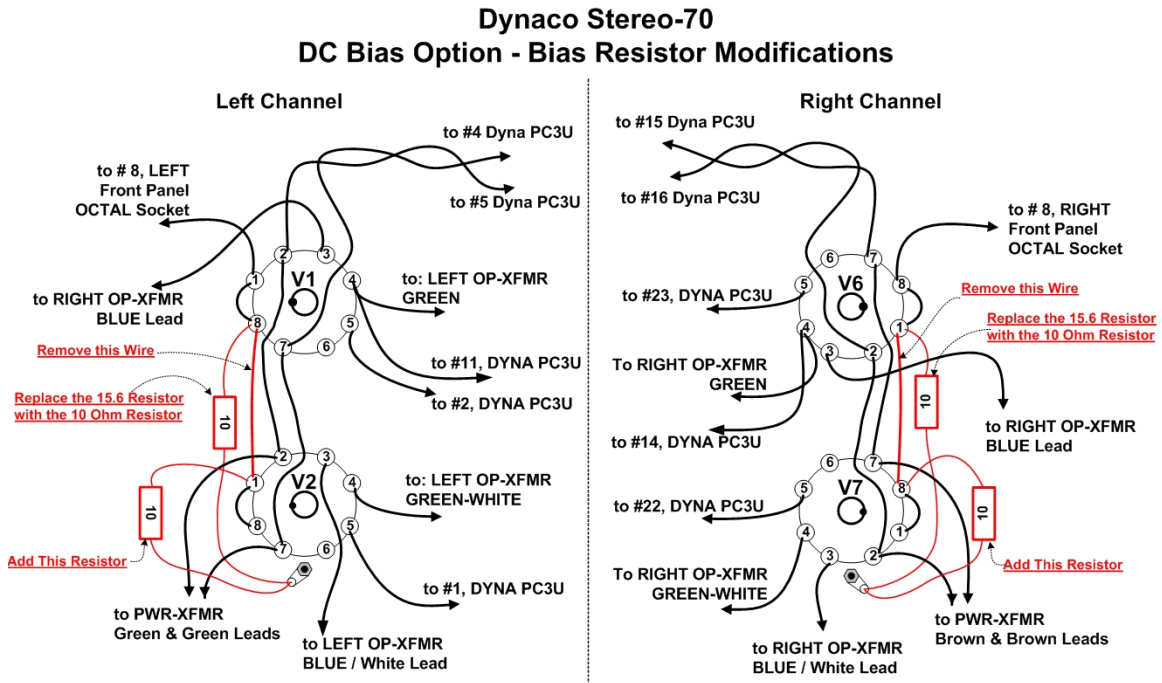

Figure 3 – DC Balance Option Wiring Diagram – 7 Pin Terminal Strip
- e. Referencing Figure 3 - At the 7 Pin Terminal Strip located under the left output transformer, replace the 10K ohm resistor connected to terminals 1 & 2 to 7.5K ohms.
- f. Referencing Figure 3 - At the 7 Pin Terminal Strip located under the left output transformer, replace the 10K ohm resistor connected to terminals 3 & 4 to 4.7K ohms.